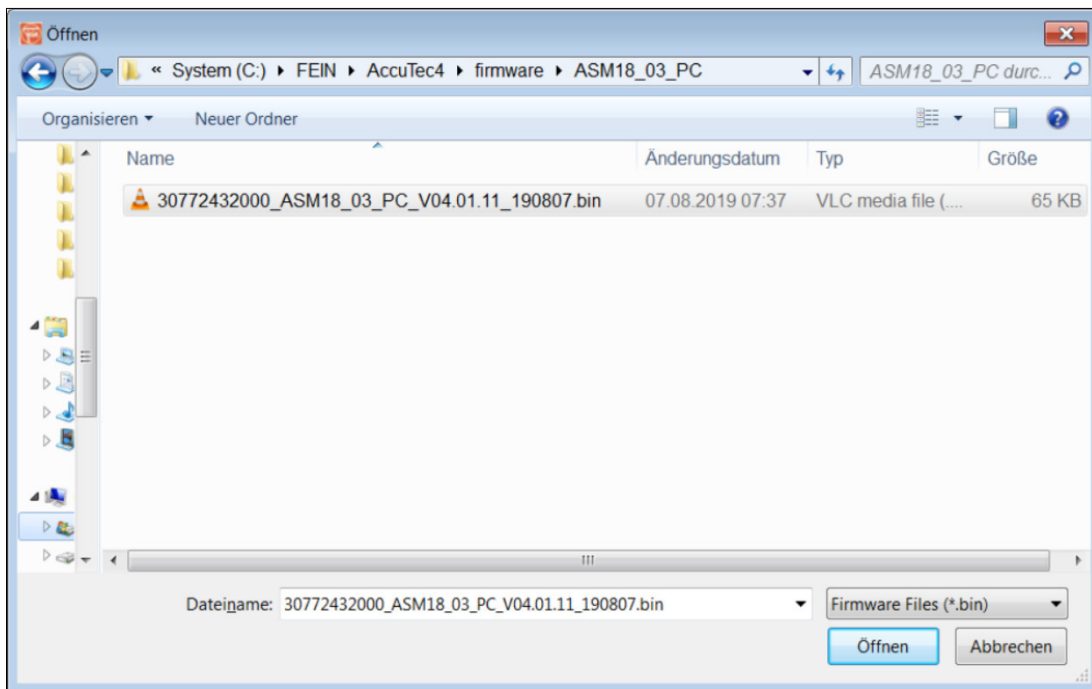

Figure 6
*A window opens in which the new firmware specific to the connected machine is displayed (see Figure 6).*